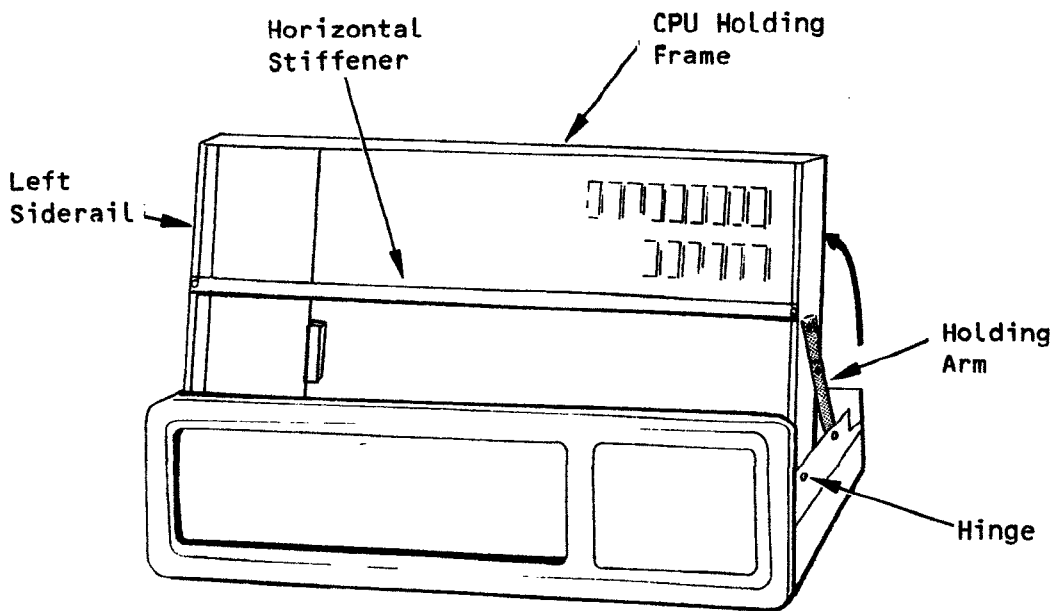

Figure 2. Raising the CPU Board
3. Removing the left siderail (facing AM-1000 front panel) of the CPU board Holding frame (See Figure 2).
In order to install the AM-337 board, you must detach the CPU board holding frame from the chassis and then disassemble the left siderail of the holding frame (see Figure 2).